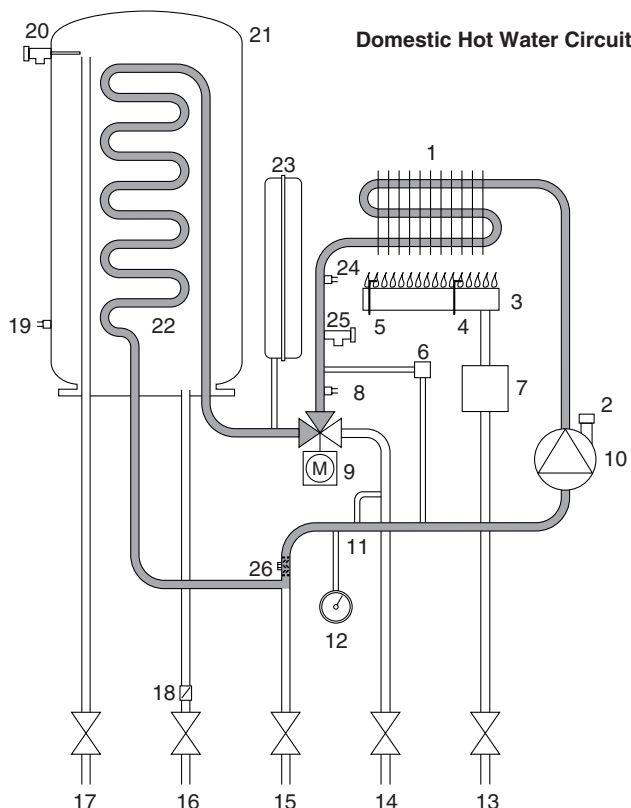

Fig. 5
4. Domestic Hot Water Mode (Fig. 5)